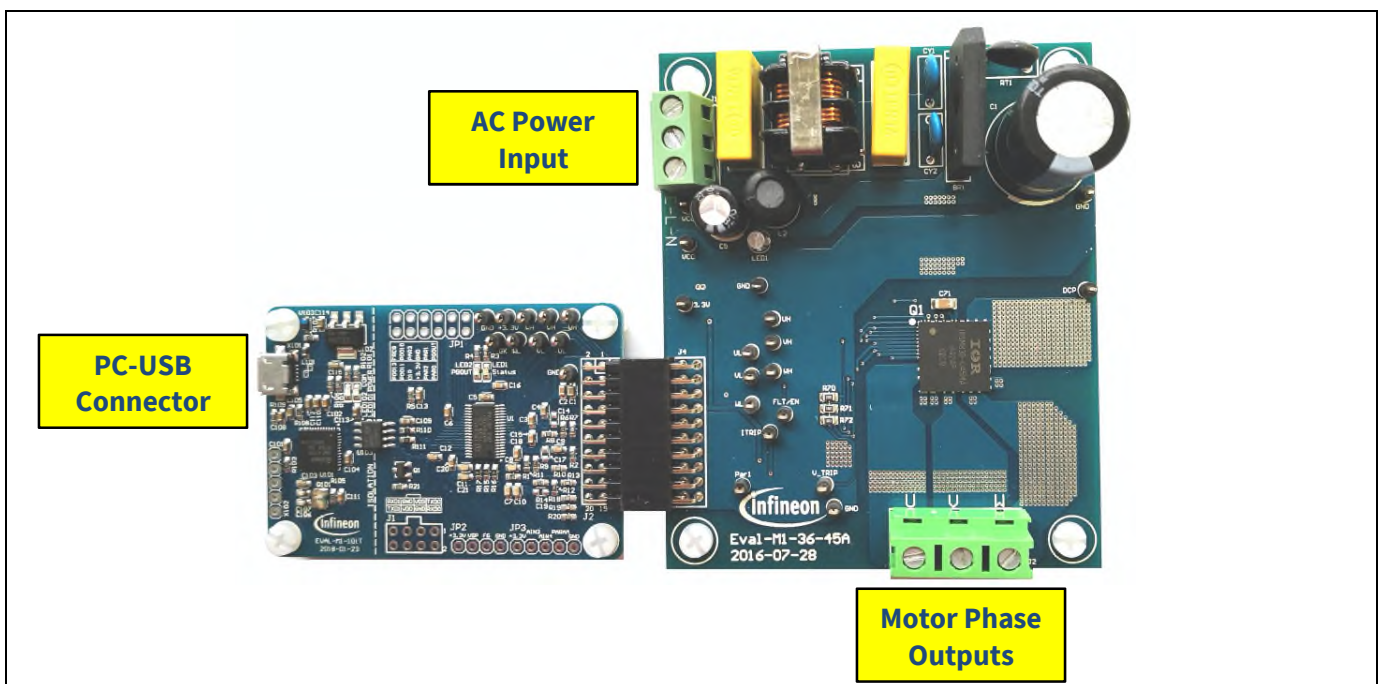

Figure 5 System connection example using EVAL-M1-101T and EVAL-M1-36-45A
3. Connect EVAL-M1-101T's M1 20-pin interface connector (J2) to power board (For example EVAL-M1-36-45A, see Figure 5).